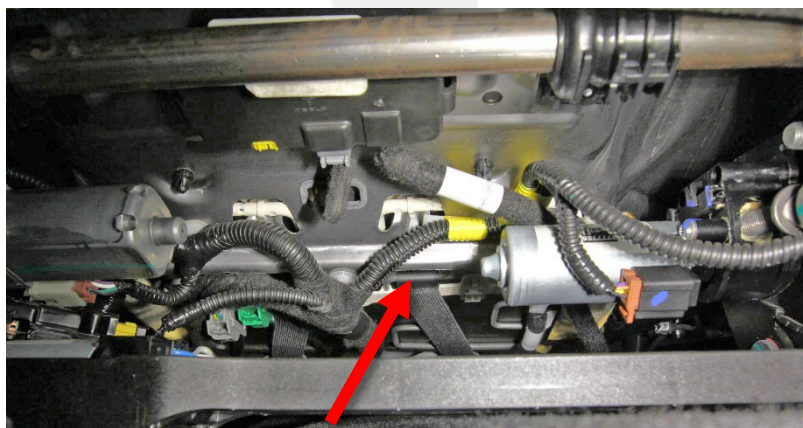

Figure 3
5. Release the strap that attaches the lower seat upholstery to the seat frame (Figure 3).
7. Secure the lower seat upholstery strap to the seat frame (Figure 3).